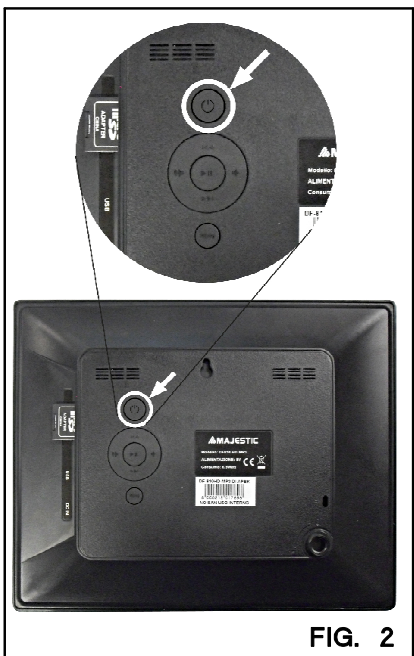

FIG. 2
- IN MANCANZA DEL TELECOMANDO PER ACCENDERE LA CORNICE DIGITALE PREMERE IL TASTO "Power" POSTO SUL RETRO (VEDI FIG. 2). PER SPEGNERLA PREMERE IL TASTO "Power" E TENERLO PREMUTO
- DURANTE LA REPRODUCCIÓN DEL VÍDEO, APRETANDO APENAS LA TECLA "Power" EN EL MANDO A DISTANCIA (VER FIG. 2), ES POSIBLE APAGAR O VOLVER A PRENDER LA PANTALLA DIGITAL
- A FALTA DEL MANDO A DISTANCIA, PARA PRENDER EL MARCO DIGITAL APRETAR LA TECLA "Power" PUESTA DETRÁS (VER FIG. 2). PARA APAGARLO PRESIONAR LA TECLA "Power" Y MANTENERLA APRETADA
- PRESS THE BUTTON "Power" PLACED ON THE BACK OF THE DIGITAL FRAME TO SWITCH IT ON WHEN REMOTE CONTROL IS NOT AVAILABLE (SEE FIG. 2). KEEP IT PRESSED TO SWITCH IT OFF
- DURANT LA REDIFFUSION DU FILM, EN APPUYANT BREVEMENT SUR LA TOUCHE "Power" DE LA TELECOMMANDE (VOIR FIG. 2), IL EST POSSIBLE D'ETEINDRE OU RALLUMER LE CADRE NUMERIQUE
- EN ABSENCE DE LA TELECOMMANDE, POUR ALLUMER LE CADRE NUMERIQUE APPUYER LE BOUTON "Power" SUR L'ARRIERE (VOIR FIG. 2). POUR L'ETEINDRE APPUYER LE BOUTON "Power" EN LE TENANT ENFONCE SUR L'ARRIERE (VOIR FIG. 2)